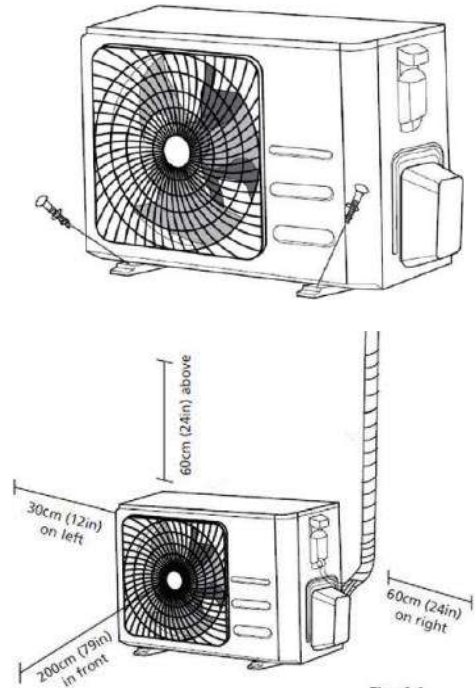

Fig. 4.1
- ✓ Meets all spatial requirements shown in Installation Space Requirements (refer to Fig. 4.1).